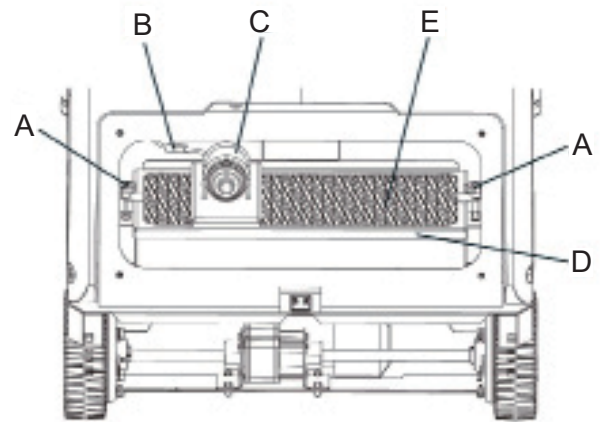
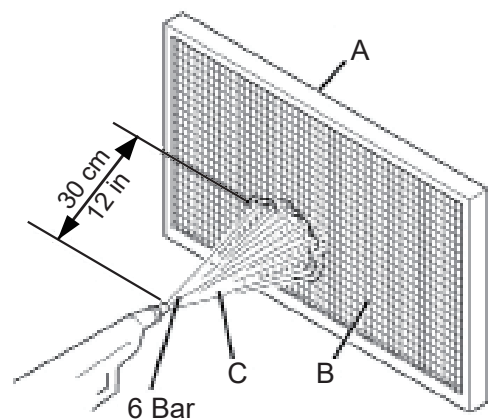

Figure9
Figure10
- 1) Drive the machine on a level floor and release the pedal (2) and stop the machine.
- 3) Disengage the hook (29) by pulling its lower end.
- 4) Remove the hopper (28) by using the handle (30) and by using hand and by disengaging it from the inner guides.
- 5) Unscrew the knobs (37) and remove the filter compartment cover (36).
- 6) Loosen the knobs (A, Fig.9).
- 7) Disconnect the connector (B, Fig.9) from the filter shaker motor (C).
- 8) Remove the dust filter fastening frame (D, Fig.9).
- 9) Remove the dust filter (E, Fig. 9).
- 10) In an outdoor area, clean the filter by shaking it on a level and clean surface, tapping the side (A, Fig. 10) opposite to the wire gauze (B).
- Complete the cleaning procedure by using compressed air (C, Fig. 10) at maximum 6 Bar, blowing only from the side of the wire gauze (B), at a minimum distance of 11.8 in (30 cm).
- 13) Clean the rubber gasket (A, Fig.10) of the cover (36) and check it for integrity and efficiency; if necessary replace it.
- Install the filter (E, Fig. 9) with the wire gauze (B, Fig. 10) facing upwards.